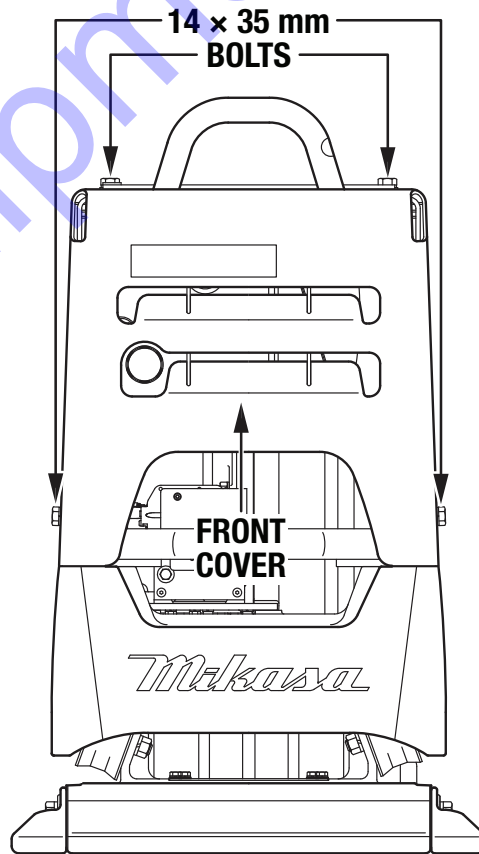

Figure 34. Front Cover Installation
20. Secure the front cover to the compactor with the four 14 × 35 mm bolts that were removed earlier (Figure 34). Torque the fastening bolts to 130.2 ft-lb (176.6 N·m).